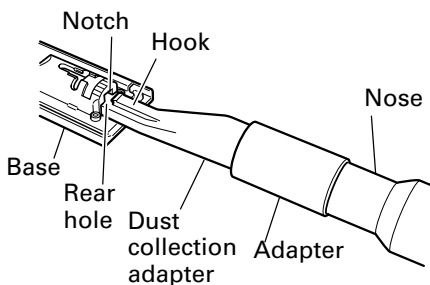

Fig. 19
- (6) Insert dust collection adapter into the rear hole of the base until the hook catches in the notch. (Fig. 19)
- (7) Press the hook to remove the dust collection adapter.